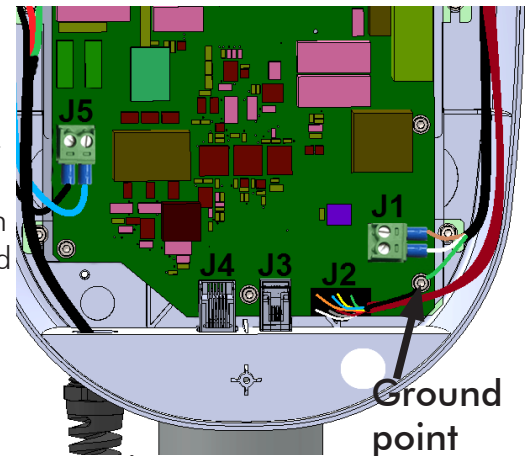

Figure 14
- Connect the Communication cable to the J2 connector on the power board as shown in Figure 14 and fix the inverter cable(2 pin terminal) to J1 connector using jewel screw driver(Non-polarized) as shown in Figure 14. Using a 2.5mm allen key connect the GND wires of both the communication & INV Power cables in the Base Unit to the Power Board by fixing M3X6 Hex socket head cap screws at the location shown in Figure 14.